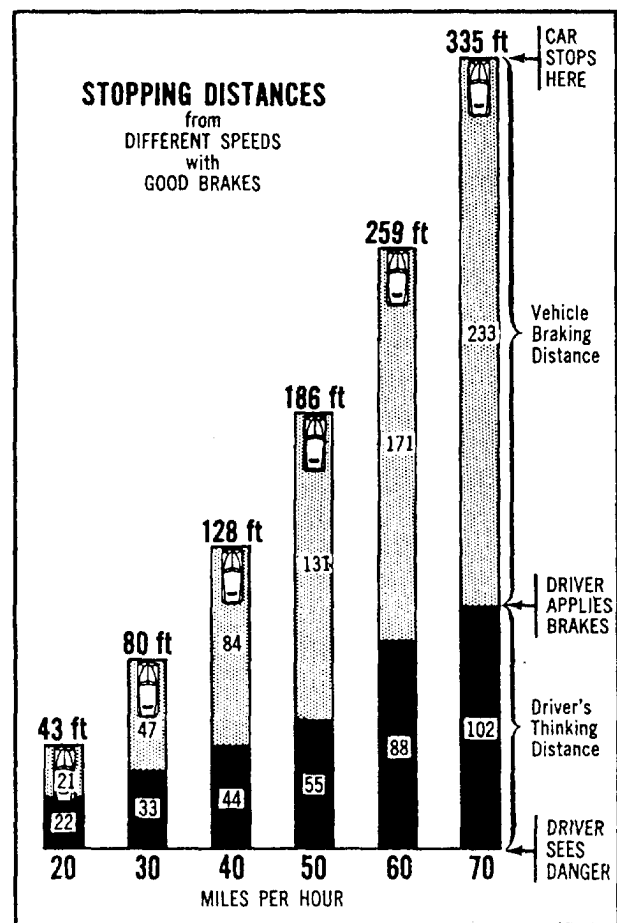

Figure 6-1. Stopping distances from different speeds with good brakes.
9. Using Figure 6-1.-Stopping distances from different speeds with good brakes. Which of the following vehicle braking distances corresponds to a vehicle with good brakes travelling at 60 MPH?
The stopping distances for all vehicles depend on the distance the driver can see and think before he or she presses the brake pedal. Figure 6-1 shows some stopping distances from different speeds with good brakes. These stopping distances came from actual tests.